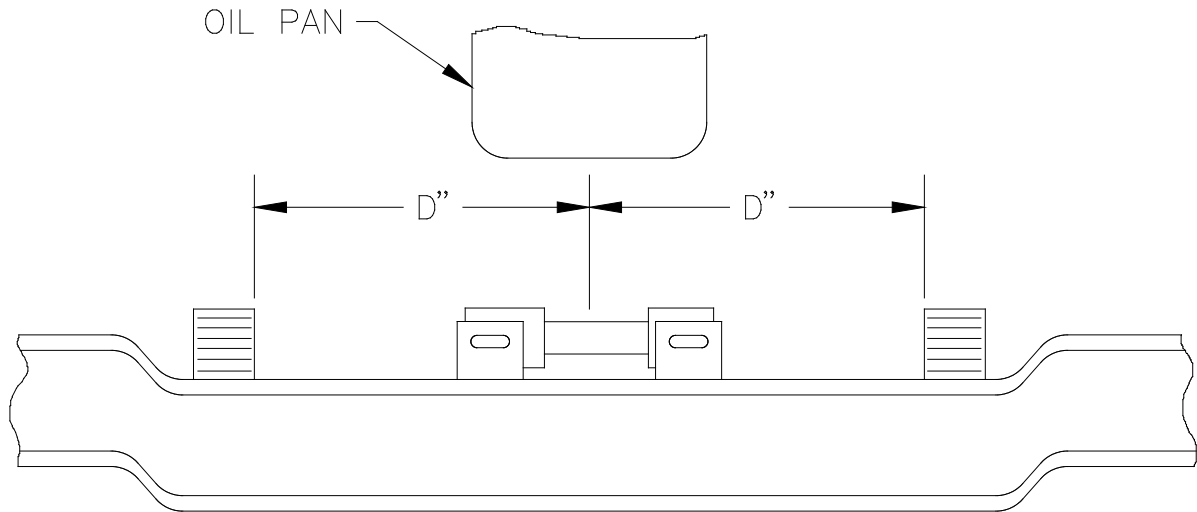

Figure 1
2.1. Measure and mark the center of the axle, both side to side and front to back. [see Figure 1].